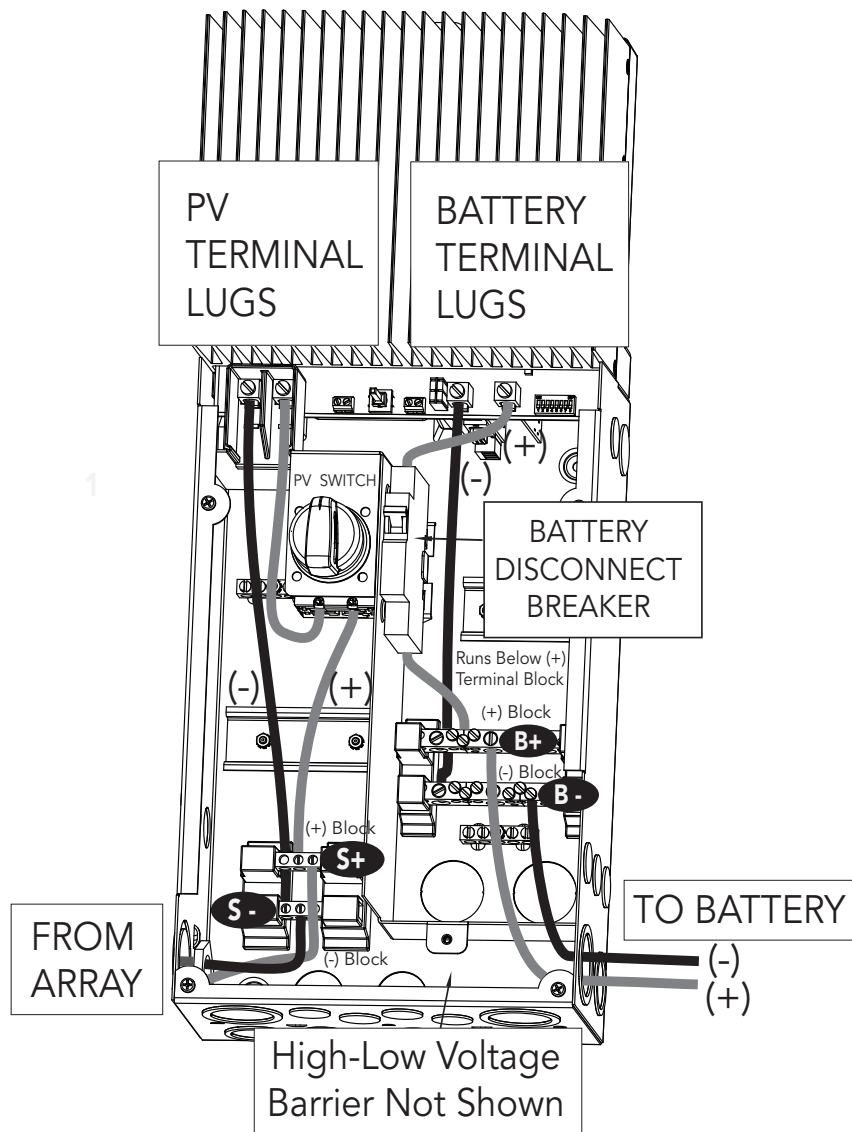

Figure 3-15. Power Terminal Locations
**Connect the four (4) power conductors shown in Figure 3-15 as described in the following steps:**
2. Pull solar and battery wires into the Disconnect Box (DB). The Remote Temperature Sensor (RTS) and Battery Sense wires can be routed inside conduit along with the battery